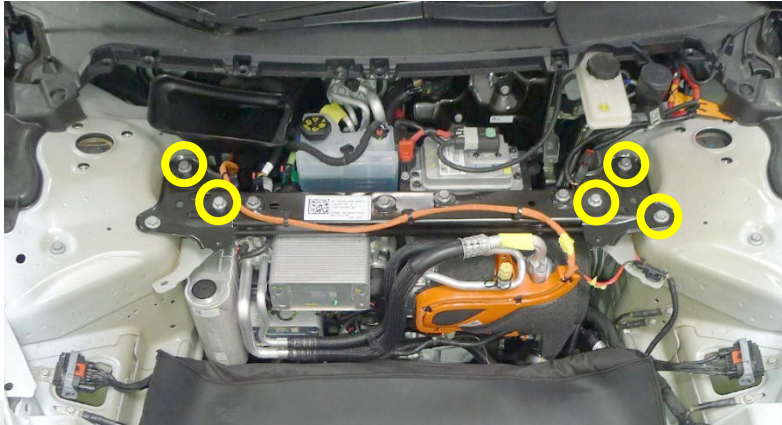

Figure 4
7. Remove the remaining shock tower brace bolts (x5) (Figure 4), and shift the shock tower brace forward on the LH side.